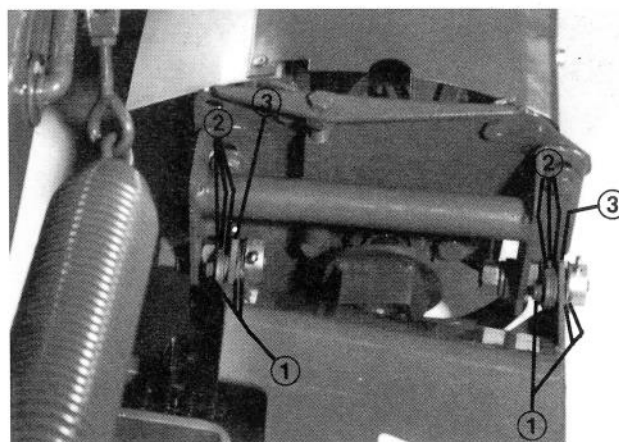

Figure 33
1. Remove screws, washers and locknuts securing shims to intermediate frame at each corner of frame (Fig. 33).
If tension is correct, install screws, washers and locknuts and continue operation (Fig. 33).
1. Move shims back to original side of intermediate frame (Fig. 33).
2. Remove chain from mower and remove (1) one chain link.
3. Install (1) one offset link. Offset link may be obtained from your Toro Distributor.